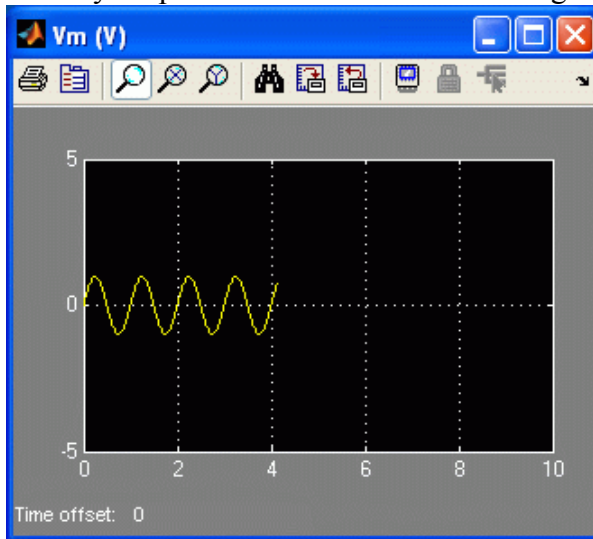
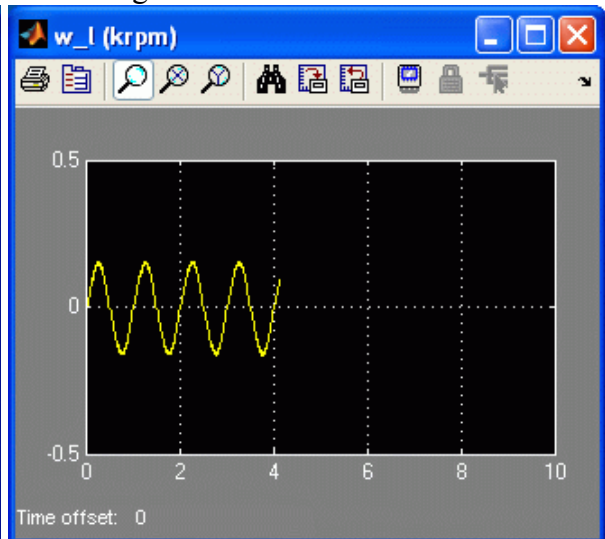

Figure 11: Input voltage scope.
Figure 12: Load shaft velocity measured by tachometer.
12. Examine the relationship between the input voltage and load speed. When the input voltage increases in the positive direction, the tachometer velocity decreases. As with the potentiometer when reading position, the speed of the load shaft should go positive when the input voltage is positive. Thus add a negative sign to the *Tachometer Calibration (rpm/V)* block so the entered value becomes $-1 / 1.5 / 70$ for high-gear or $1 / 1.5 / 14$ for low-gear. The input voltage and load velocity scopes should read as shown in Figure 11 and Figure 12.